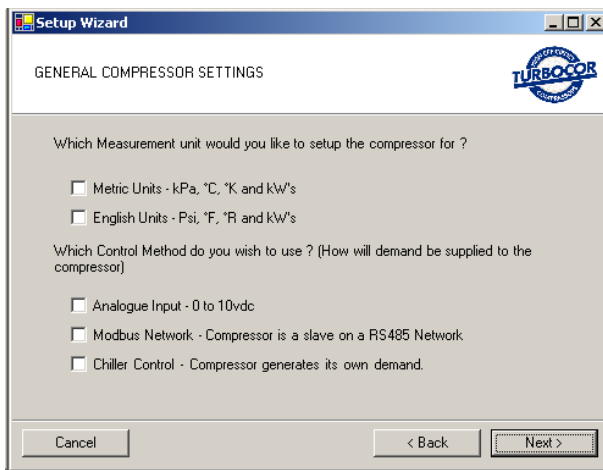

Figure 6 General Compressor Settings
2. Select the appropriate units of measurement (metric or imperial). Refer to Figure 6.